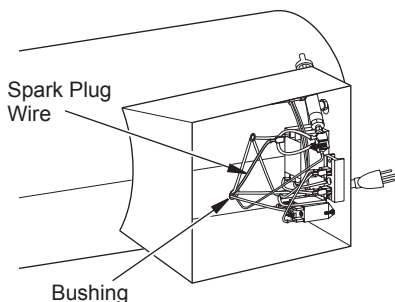

Figure 8 - Removing Spark Plug Wire from Spark Transformer (Heater may vary from illustration)
2. No spark at spark plug. To test for spark, follow step 8 under Spark Plug , page 9. If you see spark at spark plug, have heater serviced by qualified service person. If no spark seen: A) Loose or disconnected spark plug wire B) Bad spark plug C) Bad spark transformer	2. A) Check spark plug wire. Tighten or reattach loose spark plug wire. See Figure 8, page 9 for spark plug wire location B) Replace spark plug. See Spark Plug , page 9 C) Replace spark transformer. See Spark Transformer , page 9